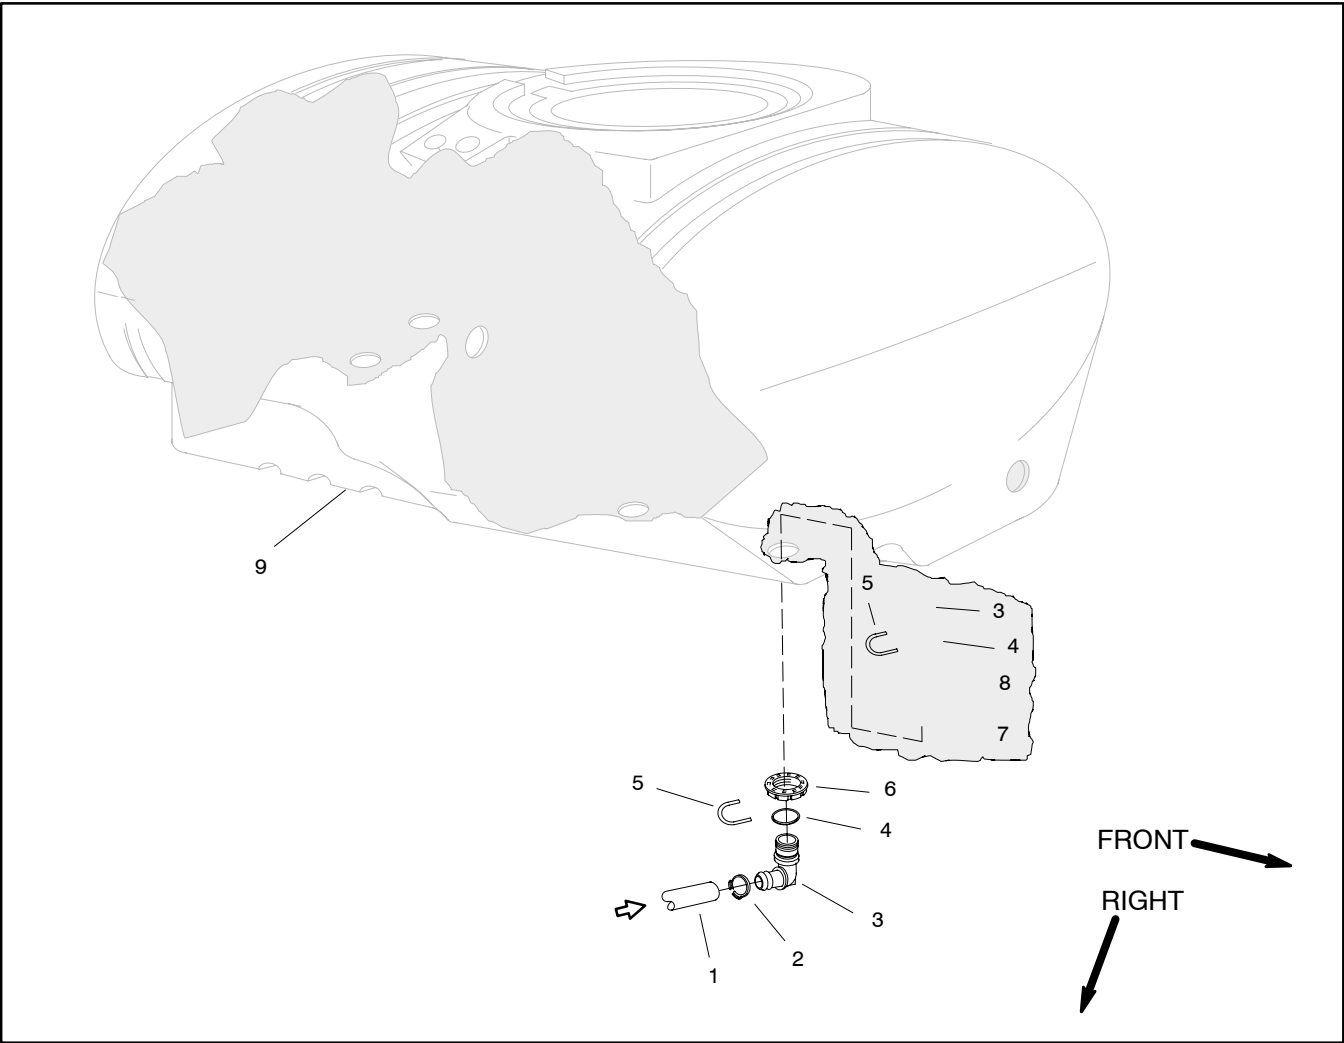

Figure 47
Disassembly (Fig. 47)
3. Disassemble boom bypass using Figure 47 as a guide. Discard all removed o-rings and gaskets.
Assembly (Fig. 47)
1. Assemble boom bypass using Figure 47 as a guide. Replace all removed o-rings and gaskets.